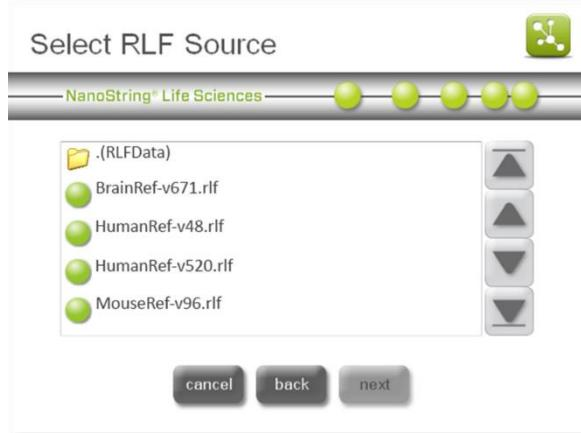

Figure 52: The ‘Select RLF Source’ screen
4. The ‘Select RLF Source’ screen will appear (**Figure 52**).